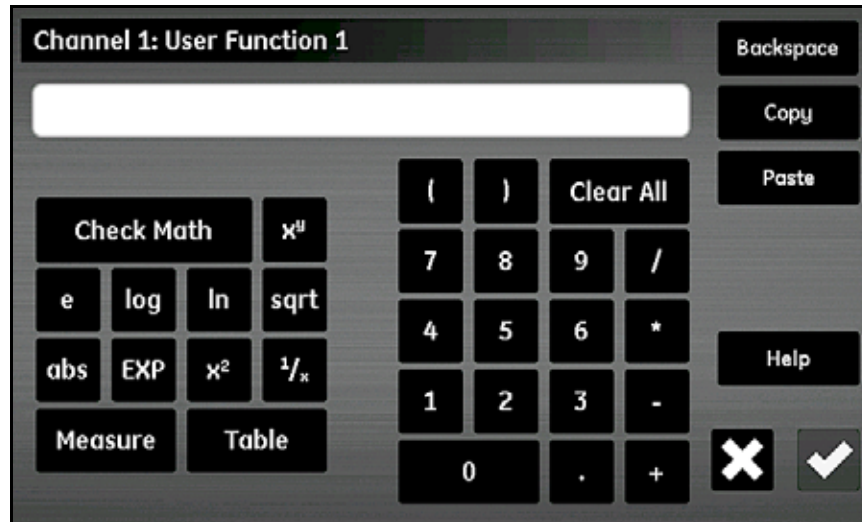

Figure 55: User Function Equation Screen
3. Tap the User Function button to select the function name (Func 1, Func 2, Func 3 or Func 4). Then, tap the large text box just below the Channel button to open the *Channel x: User Function y* screen, as shown in *Figure 55* below, to enter the function equation. When the equation is complete, tap the Check button to return to the *User Function Setup* screen.
The buttons in *Figure 55* above permit the inclusion of standard mathematical functions, lookup data from predefined user tables (see “*Entering User-Defined Tables*” on page 64). The Check Math button is used to find any errors in the equation definition. Also, you may tap the Clear All button at any time to start over. The Copy and Paste buttons at the top right corner of the screen may be used to duplicate information from one user function to another to avoid entering the same information multiple times.